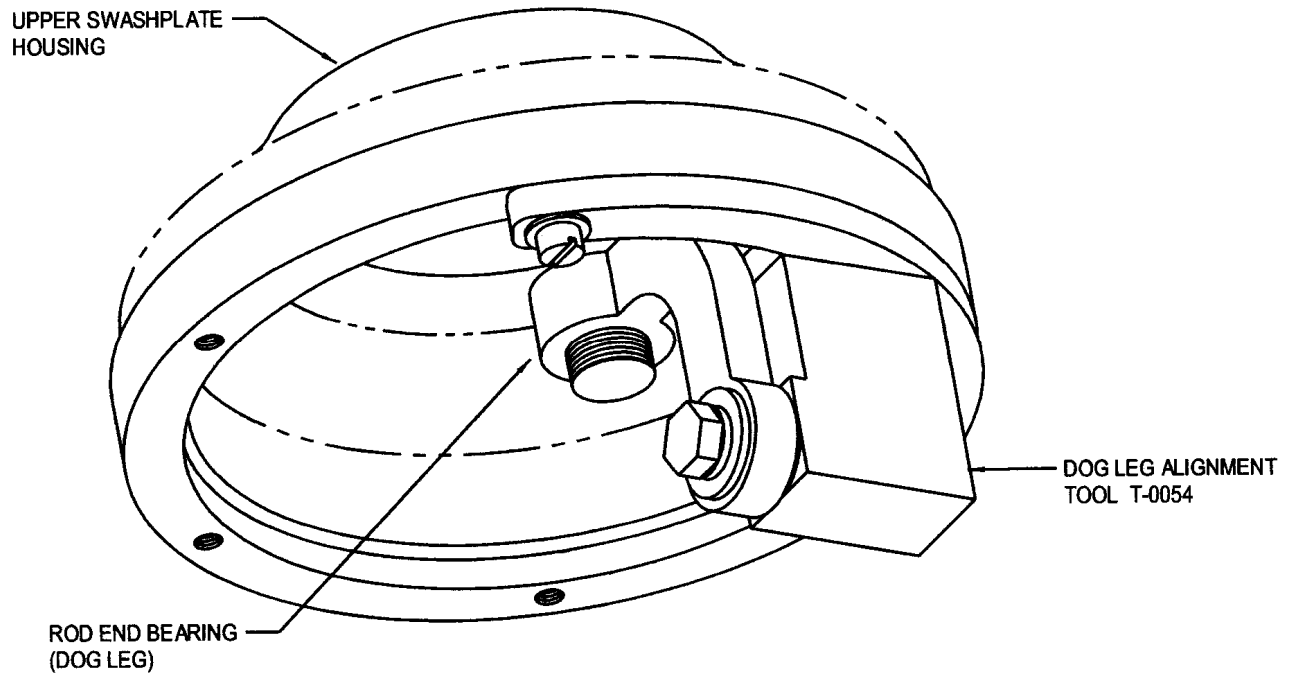

Figure 12-24. Alignment Tool T-0054 for Dog Leg Installation
- b. Position special tool T-0054 on bell housing of upper swashplate assembly while aligning the dogleg parallel to its respective walking beam on the main rotor hub. Install the screws to hold the tool in place. Place the spacer on each side of the swivel ball in the dogleg and install the bolt to position the dogleg on the tool (Figure 12-24).
- c. Torque the nut (9) to 130-140 in-lb/14.7-15.9 Nm and install cotter pin.